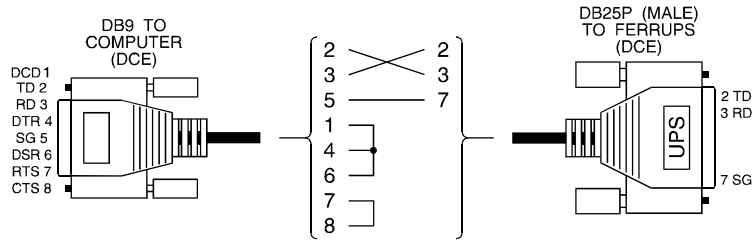
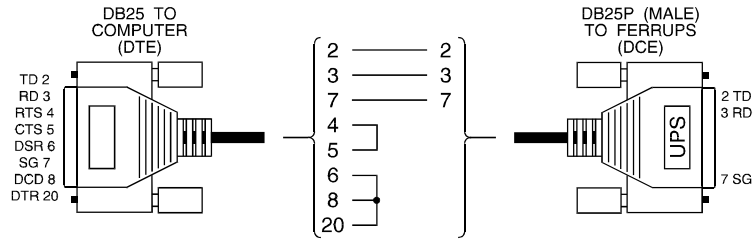

Figure 10. DB-9 to UPS Pinout
Figure 11. DB-25 to UPS Pinout
1. To connect the FERRUPS UPS DB-25S (female) RS-232 port to your terminal or computer, you need a cable designed specifically for this purpose. (See Figure 10 and Figure 11.) Powerware offers cables for computers or terminals using 25-pin or 9-pin serial ports; call your service representative to order one of these cables. If you would like to build your own cable, follow these requirements:
- **Do not use a standard 25-conductor straight-through cable;** only include straight-through connections for the pins shown in Figure 10 and Figure 11.